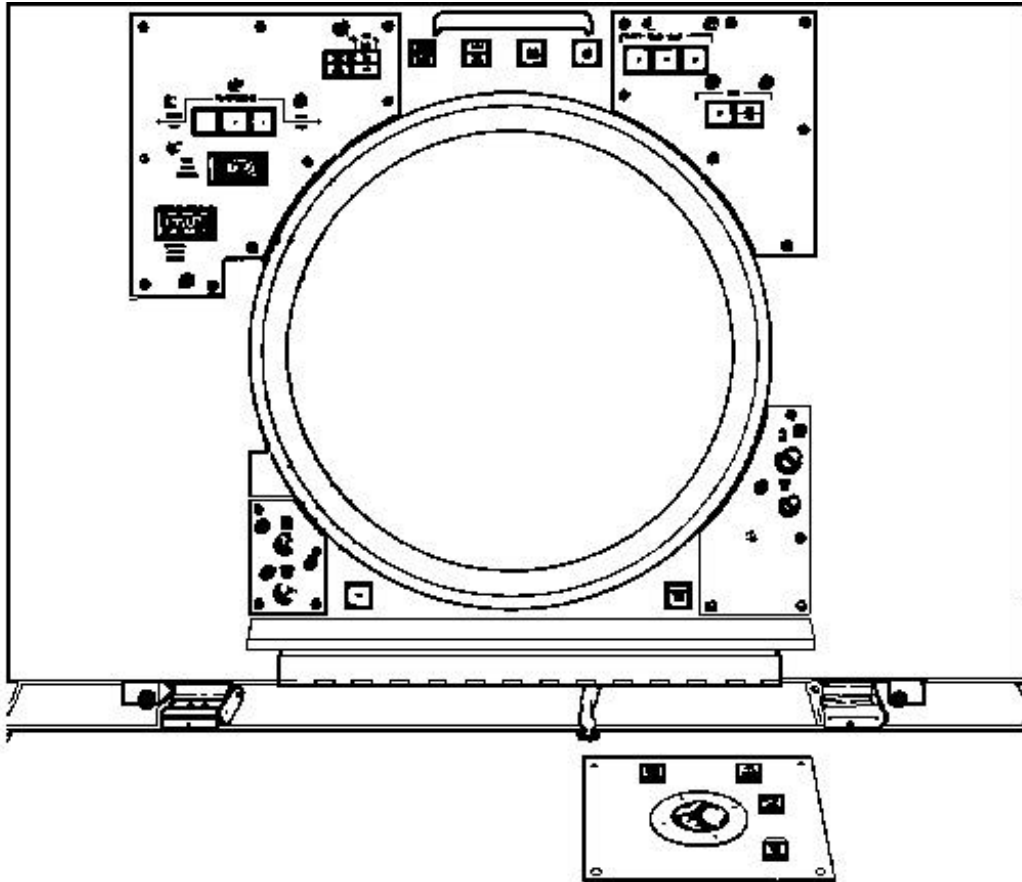

Figure 1-3. Display Console
56. The following control symbols are used during performance checks and operations, and will appear on the display (See Figure 1-3) at various times.